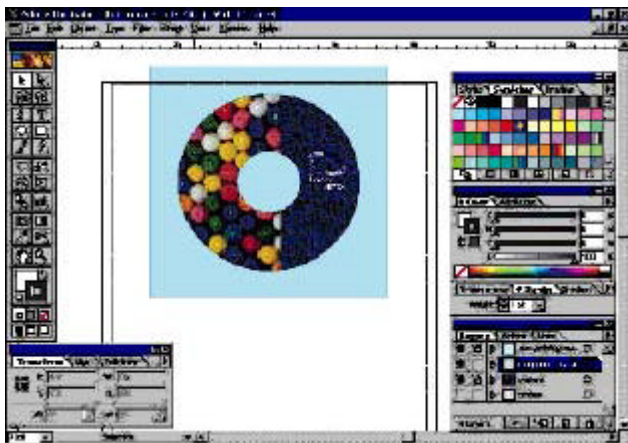

Fig. 5-6 A finished file
17) Save the file for future use (Fig. 5-6).
Using layers to print to a CD is summarized in Fig. 5-6. Note the layers shown on the screen. The top layer is non printing, the next layer down is a white mask and the layer below is content.